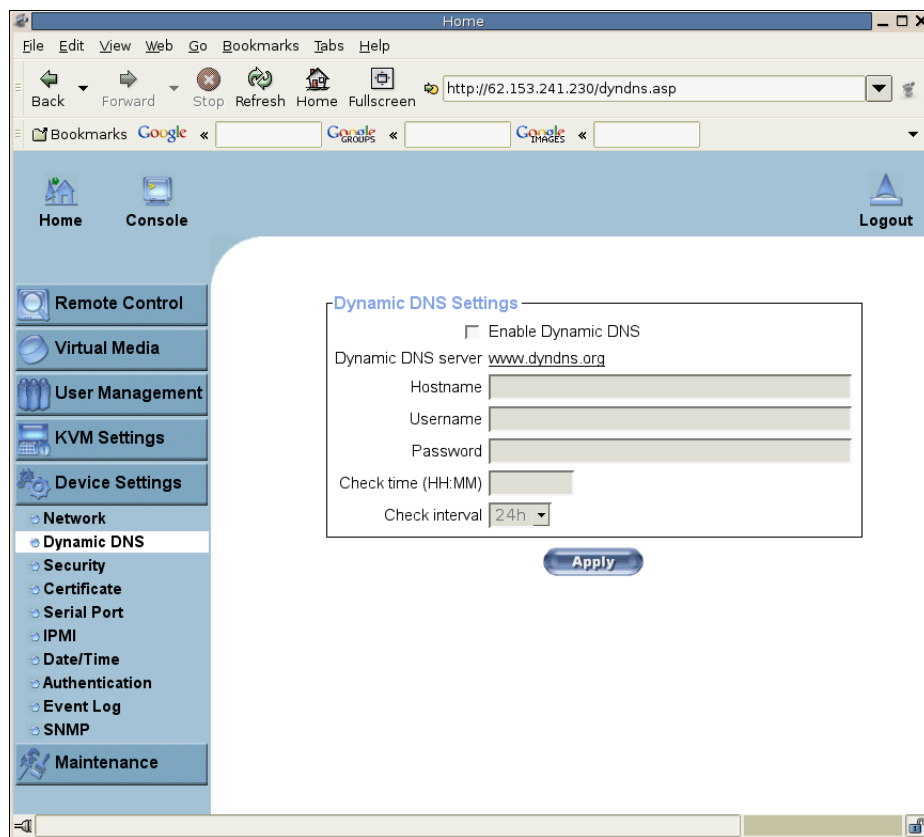

Figure 6-24. Dynamic DNS
- Enter the Dynamic DNS Settings configuration dialog as shown in Figure 6-24.